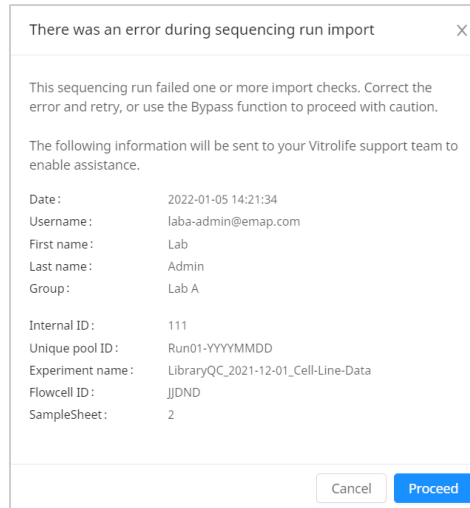

Figure 11: Custom Import bypass summary
5. A summary message is shown. Click  to bypass the error, this will trigger an the analysis using the default settings in the account. Send action details to Vitrolife Support for assistance. Only the information displayed on screen is shared (Figure 11). Alternatively, click  to exit. Data will not be visible until the run import error is bypassed.